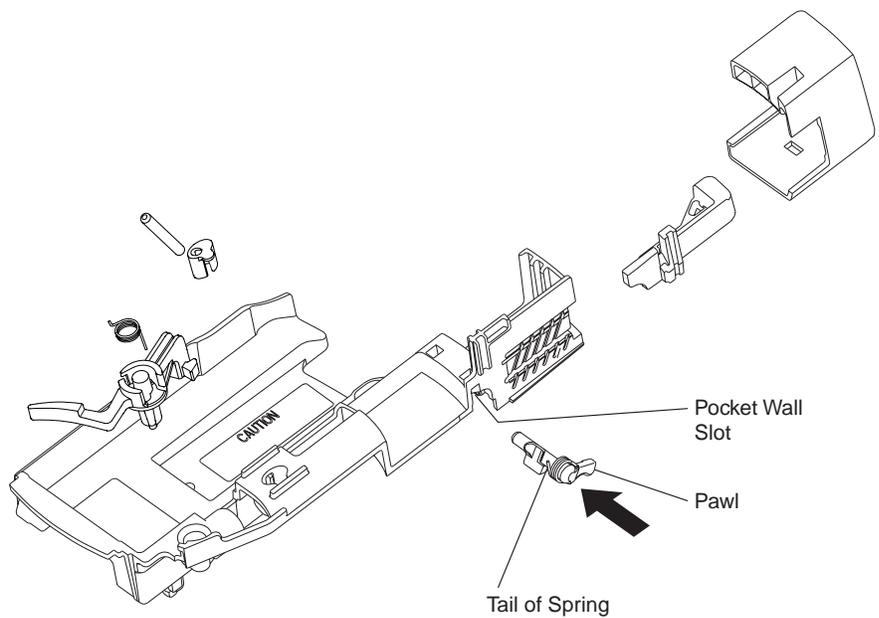

Figure 12 Reassembling the Latch Assembly
5. Referring to Figure 12, slide the latch assembly (6) part way into the pocket housing's (5) groove, with the latch's pawl (spring end) facing outward. Align the tail of the spring with the slot in the pocket wall, then slide latch and spring the rest of the way into the groove.